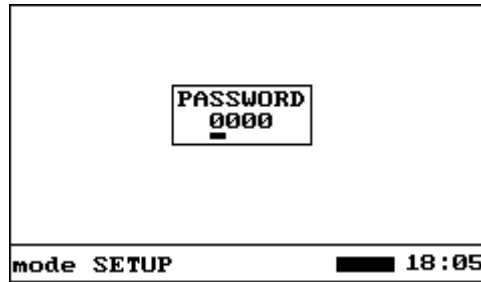

Figure 16. Entering password
1.3.3.6.4. To enter into PROTECTED OPTIONS, the password is required (Fig. 16).